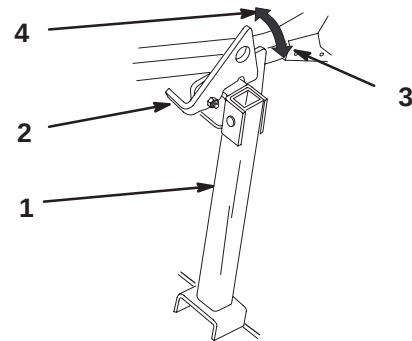

Figure 26
1. Raise latch to unlocked position (Fig. 26).